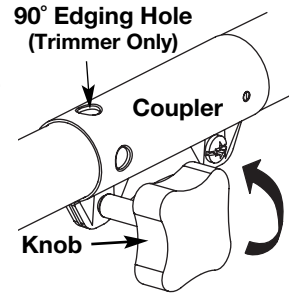
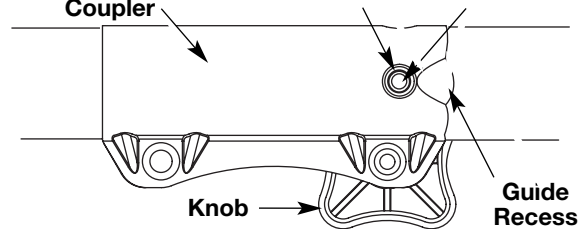
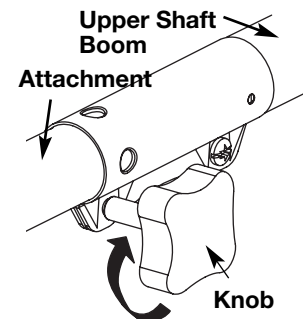

Fig. 11
Fig. 12
Fig. 13
2. Turn the knob counterclockwise to loosen coupler (Fig. 11).
3. Push in the release button (Fig. 12) and twist the shaft 90° until the release button snaps into the 90° hole (Fig. 11).
4. Turn the knob clockwise to lock the coupler (Fig. 13).
2. Turn the knob counterclockwise to loosen the coupler (Fig. 11).
3. While firmly holding the attachment, push it straight into the coupler until the release button (Fig. 12) snaps into the primary hole (Fig. 12). The primary hole is on the opposite side of the coupler from the knob (Fig. 12). Align the release button with the Guide Recess (Fig. 12) to help installation.
CAUTION: Before operating this unit, be sure that the release button is fully snapped into the primary hole (Fig. 12), and that the knob (Fig. 13) is securely tightened.
3. Press and hold the release button (Fig. 12).
4. While firmly holding the upper shaft boom (Fig. 13), pull the attachment out of the coupler.
2. Insert the four (4) screws into the holes in the air filter/muffler cover (Fig. 12) and tighten. **Do not over tighten.**